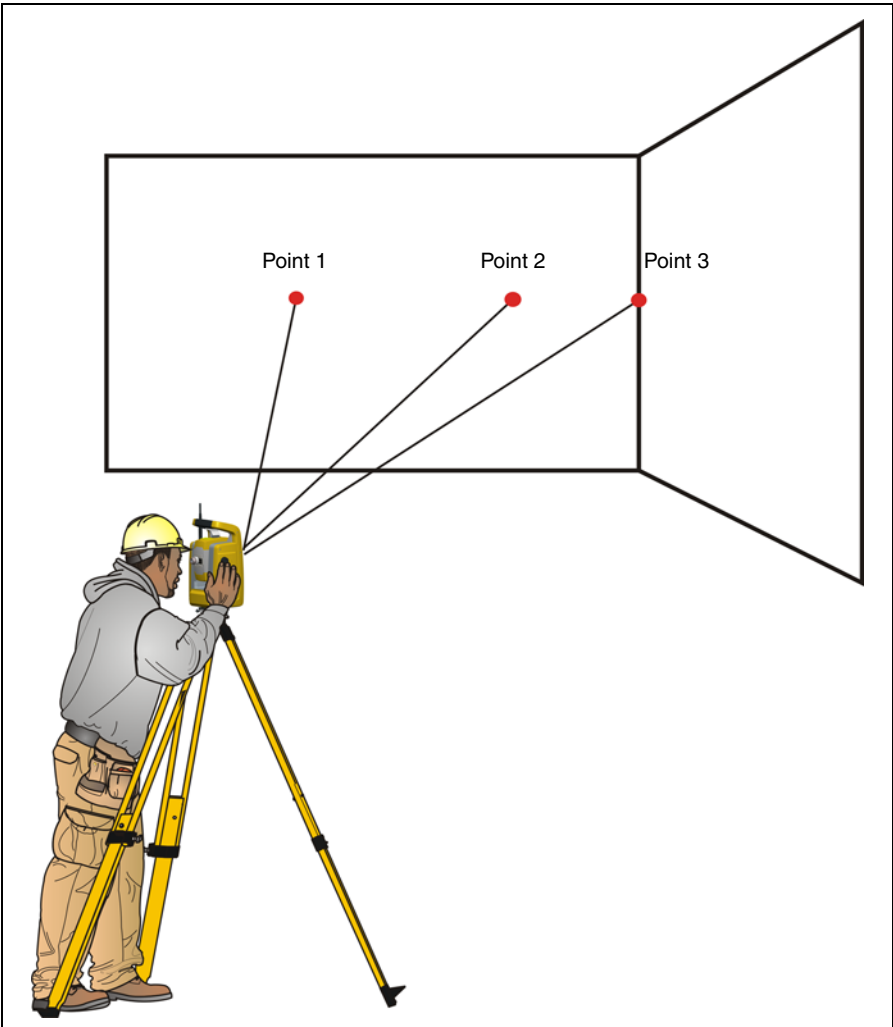

Figure 5.33 Offset measurement
2. Aim the Trimble S3 Total Station at the corner to store the correct horizontal and vertical angle. See figure 5.33